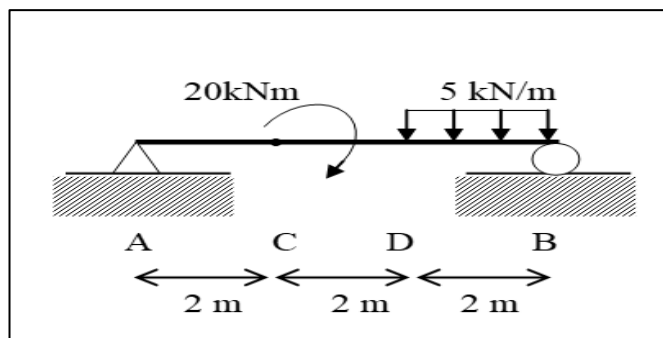

Figure B3(b)
- (b) Figure B3(b) show a simply supported beam subjected to moment and uniformly distributed load. Calculate reaction force for each support.